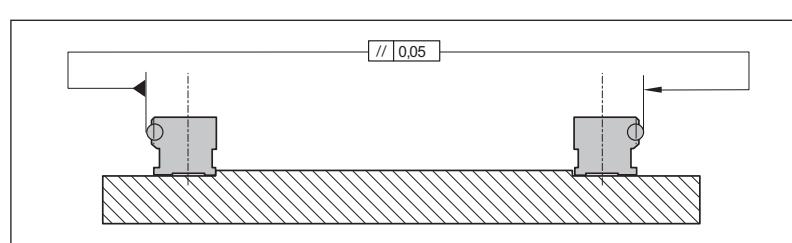

Fig. 77: Checking the parallelism of the guide rails
- ▶ Check the parallelism ➔ Fig. 77